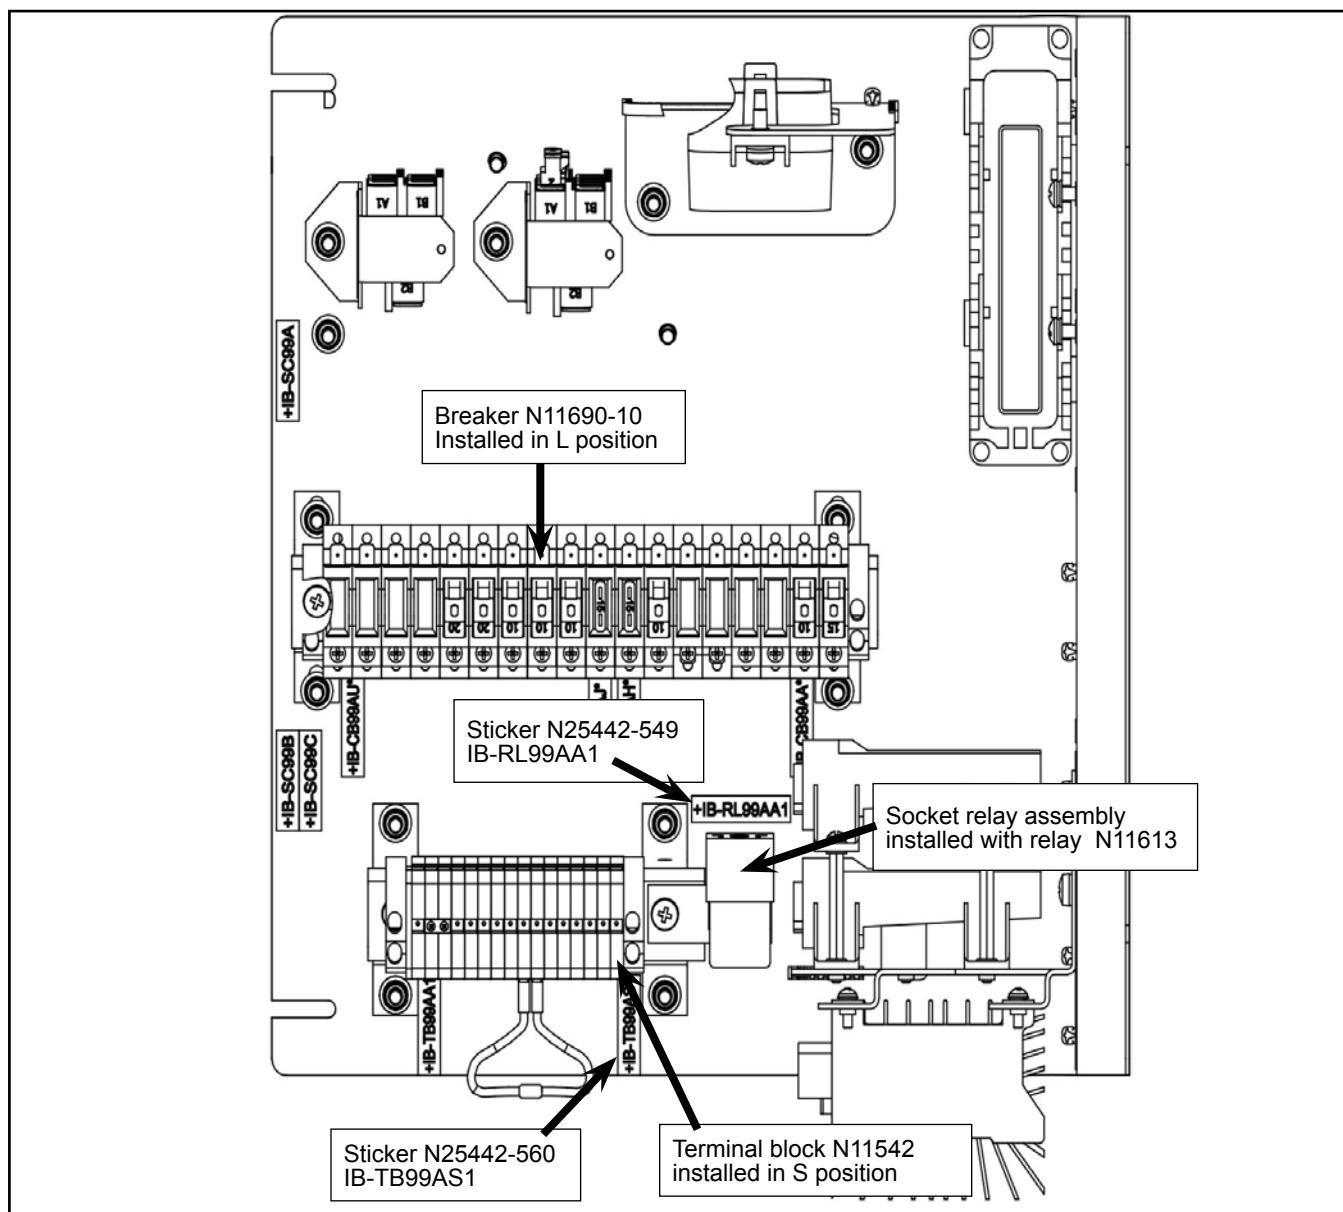

Figure 2 - I.B.Box Panel After Modification
- 1.5. Fix support of socket relay assembly to the I.B. box panel using the terminal block retaining screw. See Figure 2.
- 1.6. Install circuit breaker N11690-10 in position L of the breaker receptacle track. See Figure 2.
- 1.7. Install terminal block N11542 in position S of the terminal block track. See Figure 2.
- 1.8. Install relay N11613 on the socket relay previously installed. See Figure 2.
- 1.9. Install sticker N25442-560 (IB-TB99AS1) on top of original sticker IB-TB99AR1. See Figure 2.
- 1.10. Install sticker N25442-549 (IB-RL99AA1) on the I.B. box panel above the new relay. See Figure 2.